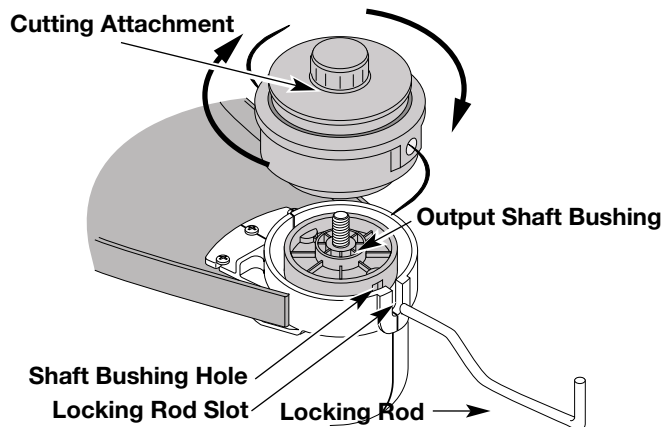

Fig. 13
1. Align the shaft bushing hole with the locking rod slot and insert the locking rod into the shaft bushing hole. (Fig. 13).